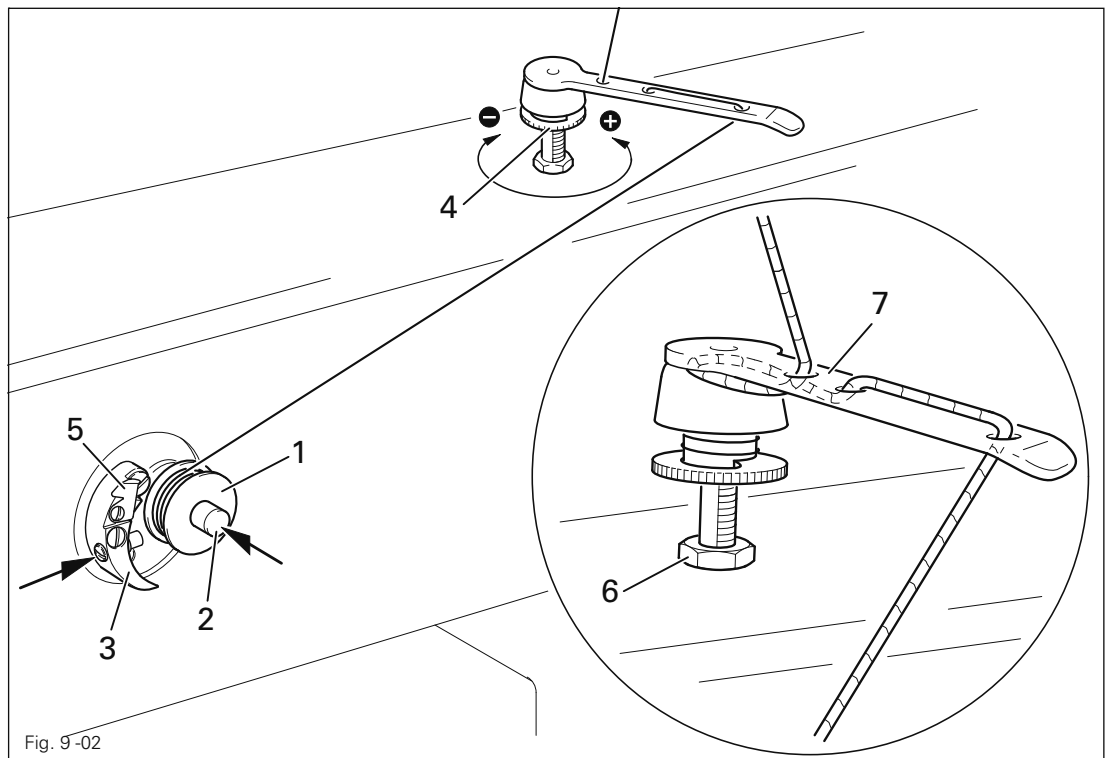

Fig. 9-02
- Thread the bobbin in accordance with Fig. 9-02 and wind it anti-clockwise around bobbin 1 a few times.